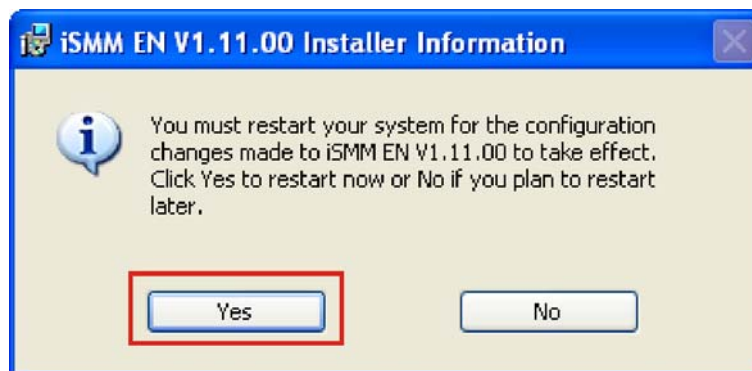

Figure 6-43: iSMN Restart Confirmation
Step 22: The **Restart Confirmation** screen appears.(Figure 6-43)